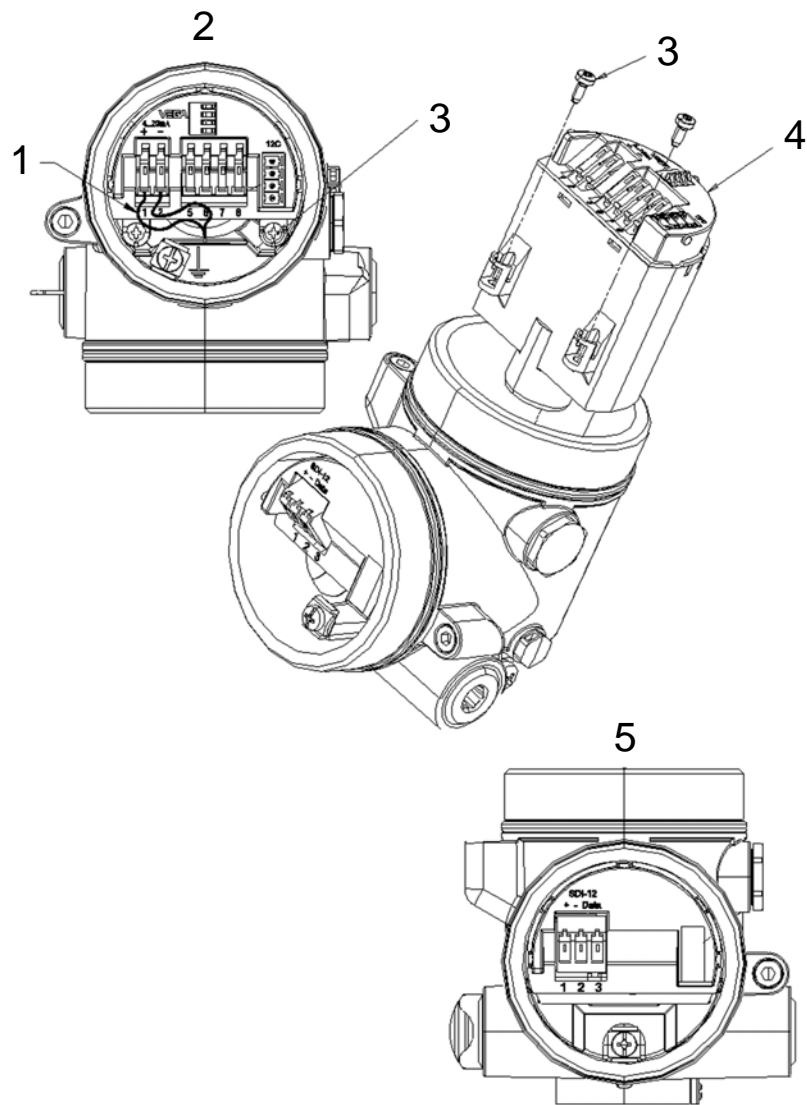

FIGURE 7-1. Changing the Electronics
The electronics module is replaced by doing the following steps (see Figure 7-1 and Table 7-5):
1. Unscrew the housing cap (cap is not shown in Figure 7-1).
3. Loosen the two (2) screws “A” securing the electronics to the housing. These screws are captive screws and will remain nested with the electronics.